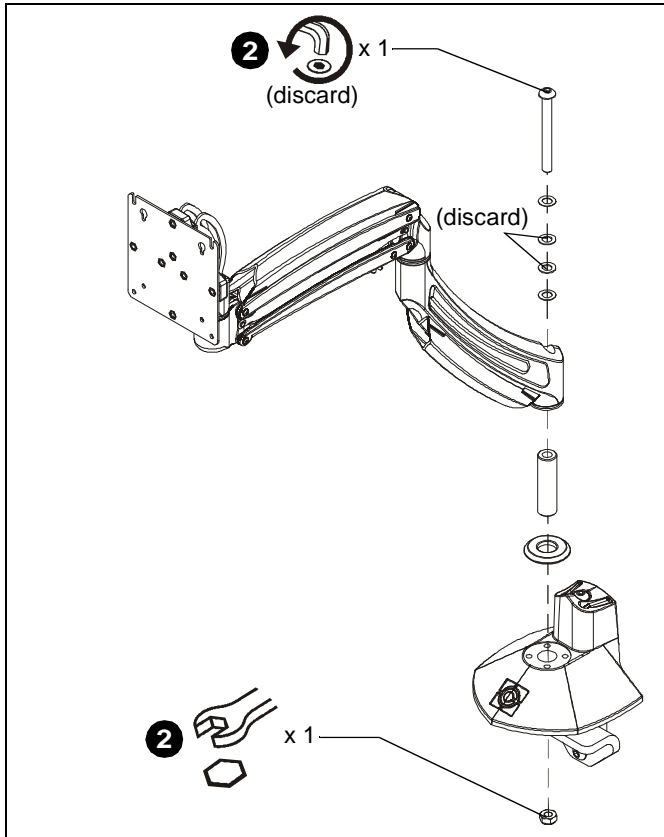

Figure 1
- Loosen lock nut and 3" button head cap screw located in arm to remove arm from mount. **SAVE ALL HARDWARE AND MOUNT ARM EXCEPT 3" SCREW AND PLASTIC SPACERS!** (See Figure 1)